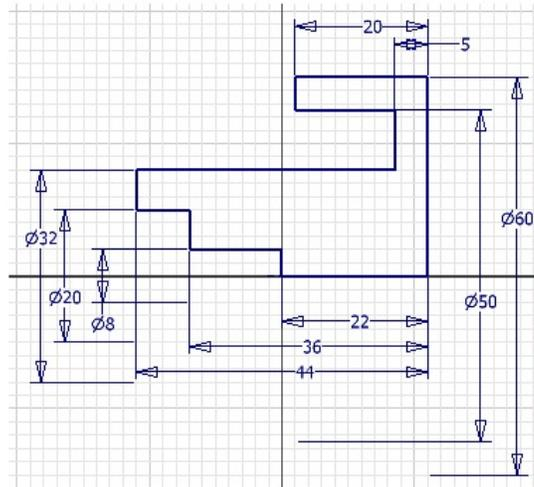

Figure 3-55 Fully constrained sketch for Tutorial 2
the sketch to make it a fully constrained sketch, refer to Figure 3-55.
16. Choose the **Zoom All** tool from the **Navigation Bar > Zoom** flyout to fit the sketch into the drawing window. The fully constrained sketch after adding all the dimensions is shown in Figure 3-55.